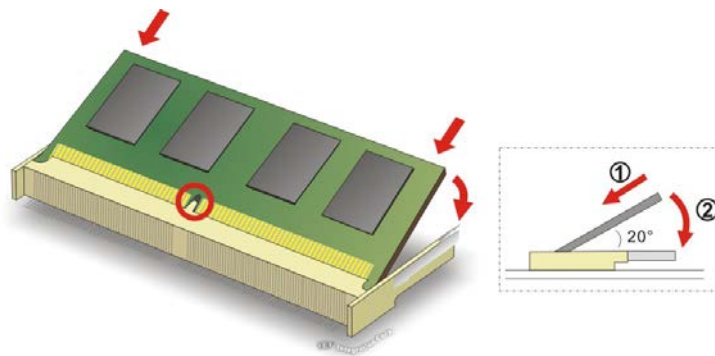

Figure 5-2: SO-DIMM Installation
Step 7: Install the new memory module by pushing it into the socket at a 20° angle (Figure 5-2).
Step 8: Gently push the memory module downwards and the arms clip into place (Figure 5-2).